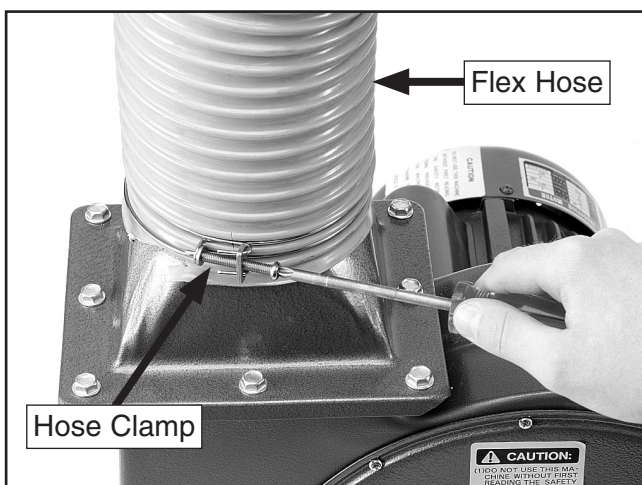

Figure 10. Attaching flex hose onto collector body outlet.
7. Slip a loosened hose clamp over each end of the flex-hose, and attach the ends over the collector and collector body outlet. Tighten each hose clamp until snug, as shown in **Figure 10**.